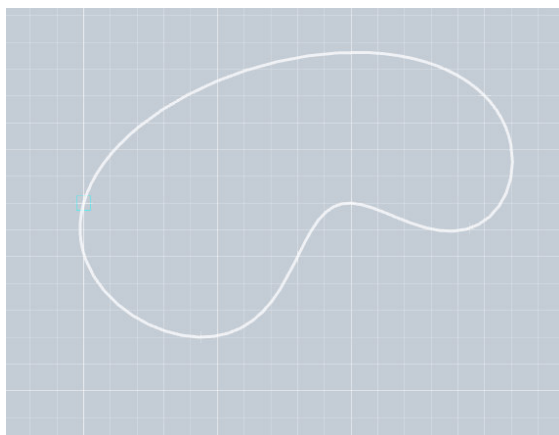

Figure 4-60 Start the closed shape with the first click
7. If you're making a closed shape, you'll see that a blue box appears when you get back to your starting point (Figure 4-60).